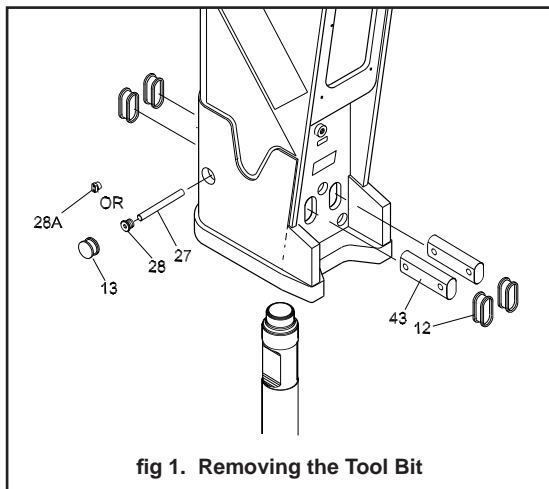

fig 1. Removing the Tool Bit
1. Lay the breaker in a horizontal position to install the tool bit. Remove the retainer plate (58) and the sound plugs (12) if present (see fig. 1).